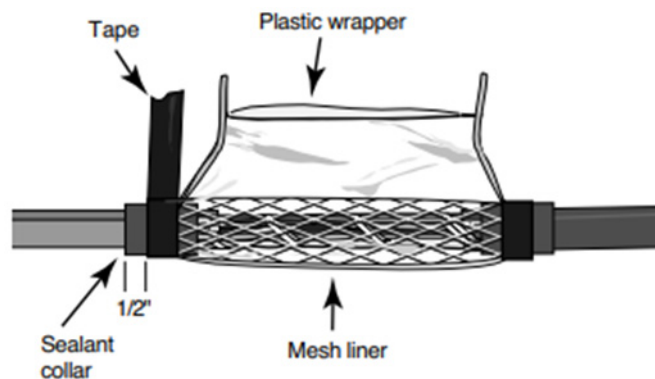

Figure 5
6. Leaving 1/2" of sealant collar exposed. secure the wrapper with two laps of tightly wrapped vinyl tape. Repeat Steps 5 and 6 for the other end of the splice opening. (Figure 5)